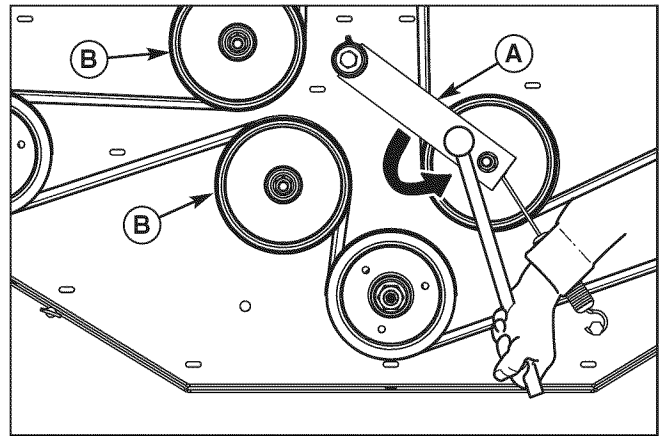

Figure 20. Mower PTO Belt
1. Using a 1/2" breaker bar, place the square end in the square hole located in the end of the idler arm (A, Figures 20). Carefully rotate the breaker bar counter-clockwise, which will relieve the tension on the belt exerted from the idler arm.
2. Slide the drive belt over the edge of the stationary idler pulley (B). Carefully release the tension on the breaker bar. Remove the belt from the right-hand (discharge side) spindle pulley.